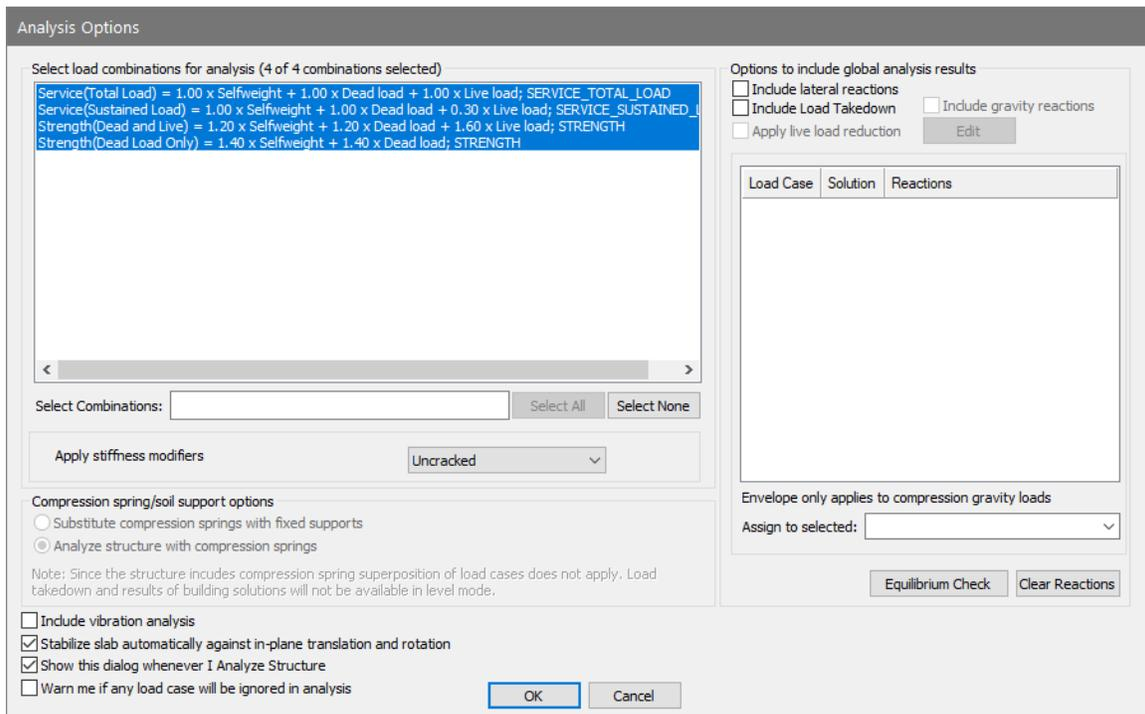

Figure 3-4
- Go to *Analysis* → *Analysis* and click on the *Execute Analysis*  icon. This will bring up the Analysis Options window as shown in **FIGURE 3-4**.